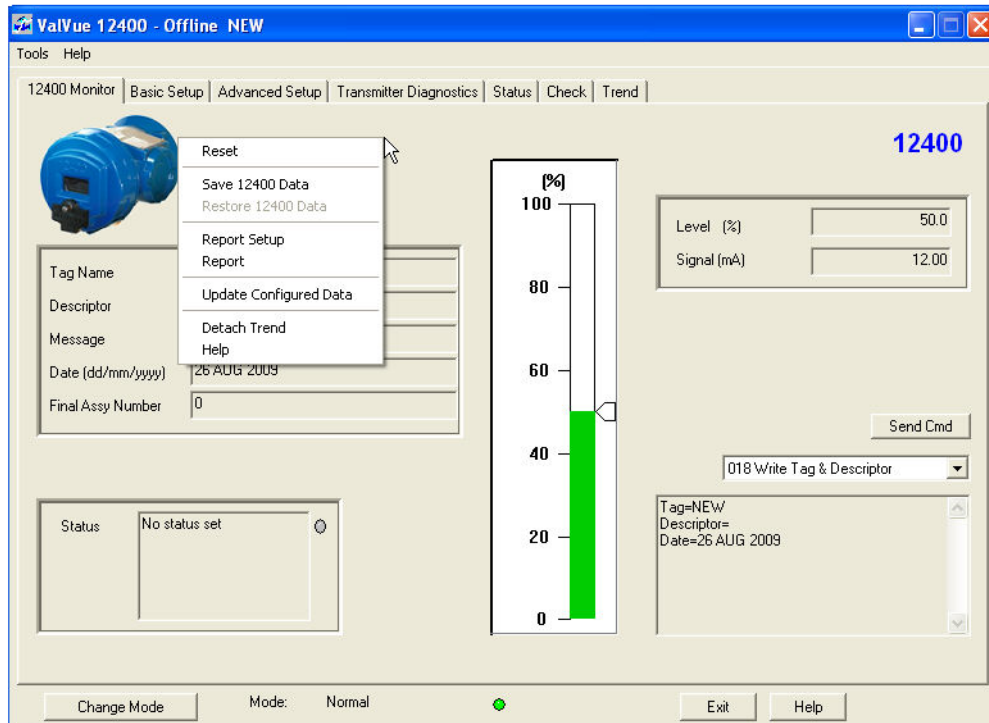

Figure 102 Selecting Reset
1. Right-click on the *12400 Monitor* screen to pop up the context menu and select **Reset** (Figure 102).